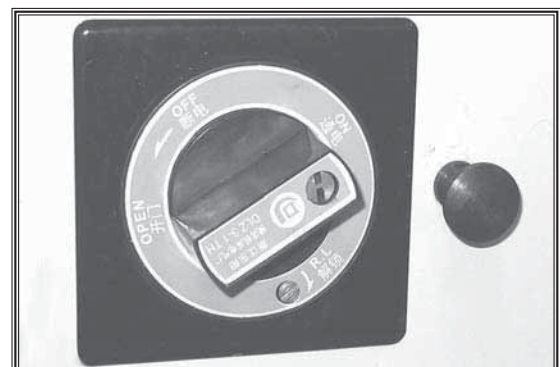

Figure 16. Master power switch and 40A overload breaker—switched **ON**.
7. Turn the master power switch **ON** (**Figure 16**) at the rear of the lathe.
If the master power switch (**Figure 16**) at the back of the lathe is rotated to the **OFF** position, power is cut to the entire machine, but is still present at the input side of the switch. To completely disconnect all power to the lathe, the main shop power supply lever must be in the **OFF** position.